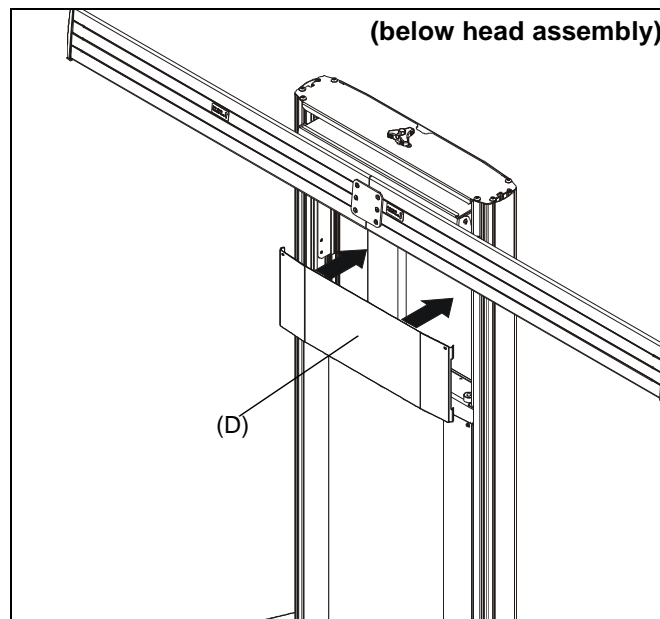
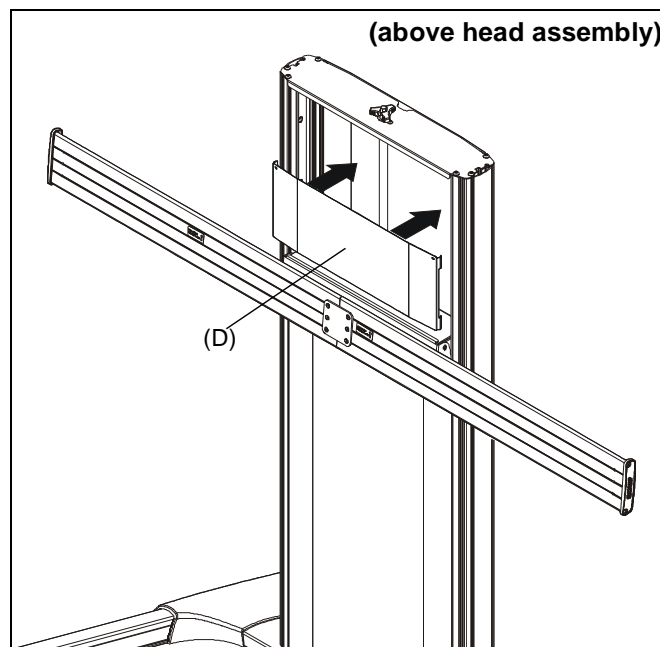

Figure 9
Figure 10
2. Install dual screen cover (D) into open area of column assembly, above or below head assembly. (See Figure 9) or (See Figure 10)